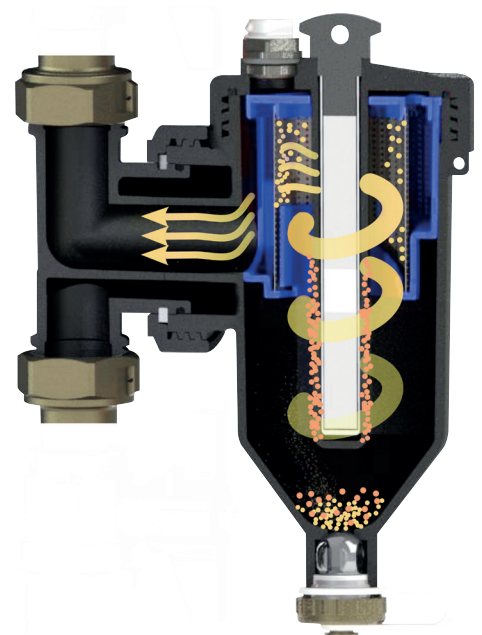

Fig. B3: mechanical filtration
- **mechanical filtration:** the particles not yet fallen are hold by the filter mesh (8) (fig. B3);